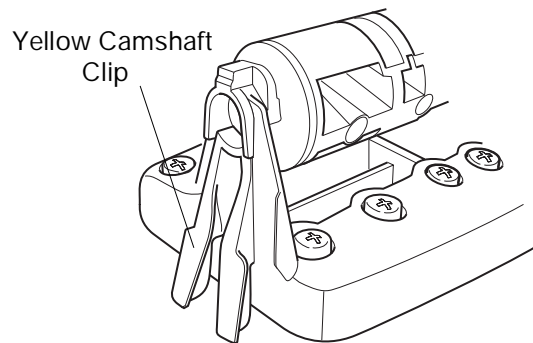
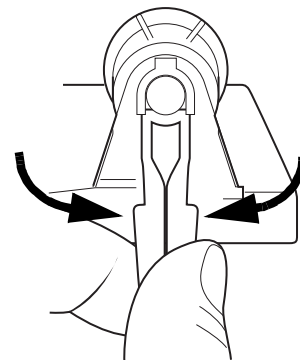

Figure 10
Figure 11
4. Remove the yellow camshaft clip, located at the rear of the camshaft (Figure 10) to remove the camshaft. Push the two ends of the clip together (Figure 11) to remove the clip from the back.